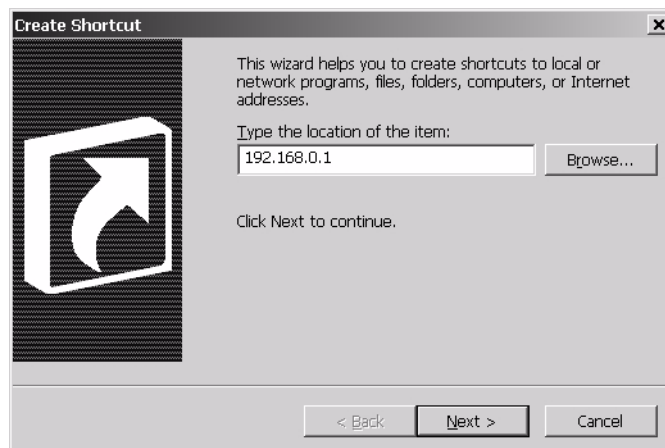

Figure 40: Entering the System Control Center URL in the Create Shortcut window
2. Type **http://192.168.0.1** in the field on the Create Shortcut window as shown in Figure 40.